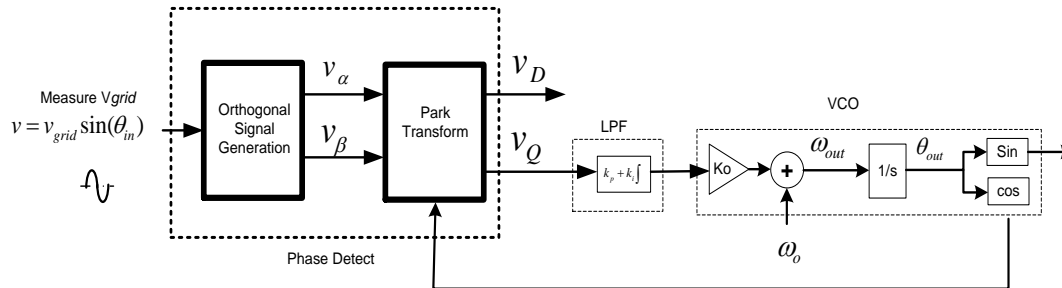

Figure 10 Inverter PLL control
The inverter uses a phase locked loop (PLL) to synchronize its output current to the grid voltage. A functional diagram of a PLL is shown in the figure below, which consists of a phase detect (PD) consisting of park transform, a loop filter (LPF) and a voltage controlled oscillator(VCO), Figure 10.